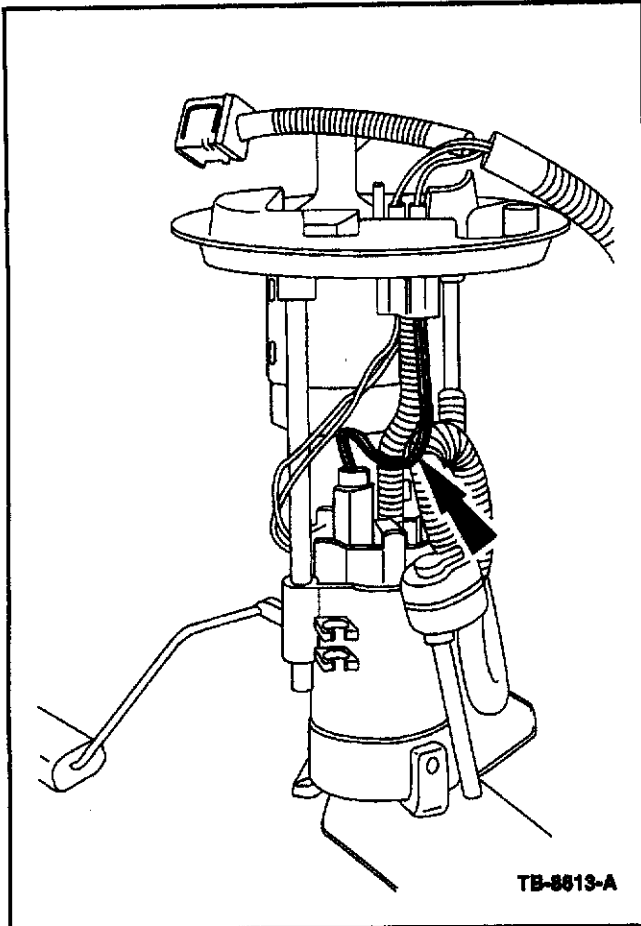

Figure 4 - Article 06-17-10
8. Re-attach electrical connector harness to fuel pump housing. Prior to making the connection, place one loop in the pump wires away from the convoluted feed tube (Figure 4).